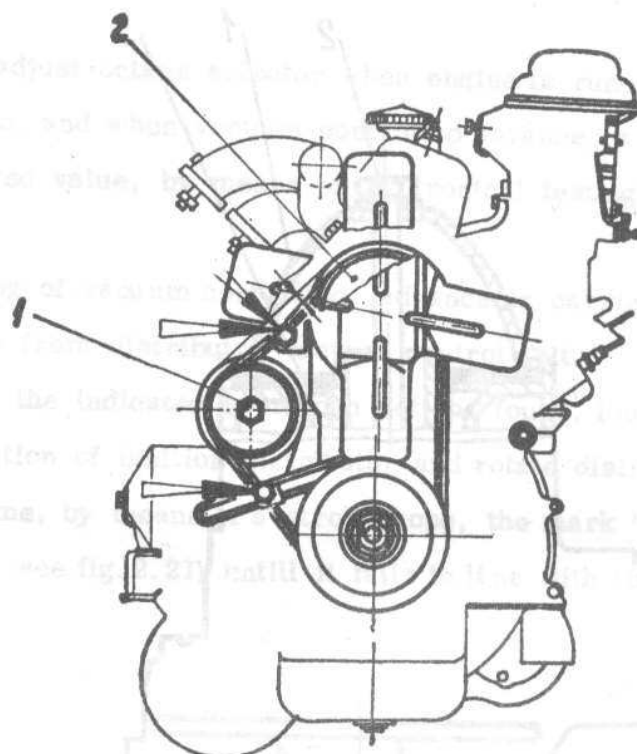

Fig.2.19. ADJUSTING THE FAN V-BELT STRETCHING
- After a mileage of about 6.000 km, before starting for a new journey, lift engine bonnet and check fan V-belt tension (see fig.2.19). The belt may be considered rightly stretched, when on being depressed with a 3 - 4 kg force.
between alternator and water pump pulley (1 and 2 - fig.2.19), its dip does not exceed 10 - 15 mm.